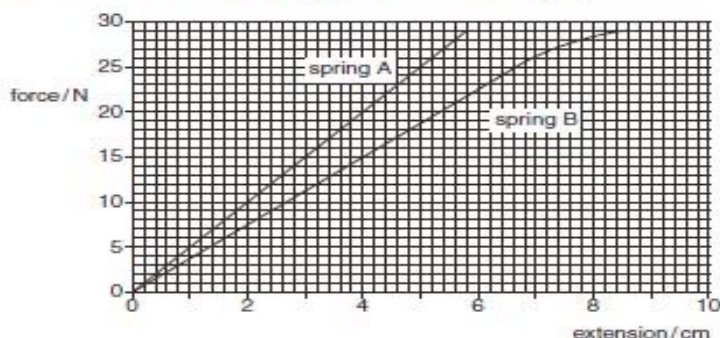

Fig. 1.2
- (b) Fig. 1.2 shows the force-extension graphs for two different springs.
Use values from Fig. 1.2 to explain what the student means.
- (ii) When a force of 25 N is applied, spring B reaches its limit of proportionality but spring A does not. Explain how Fig. 1.2 shows this.
Using Fig. 1.2, determine the force that produces an extension of spring B that is 1.0 cm greater than the extension of spring A.